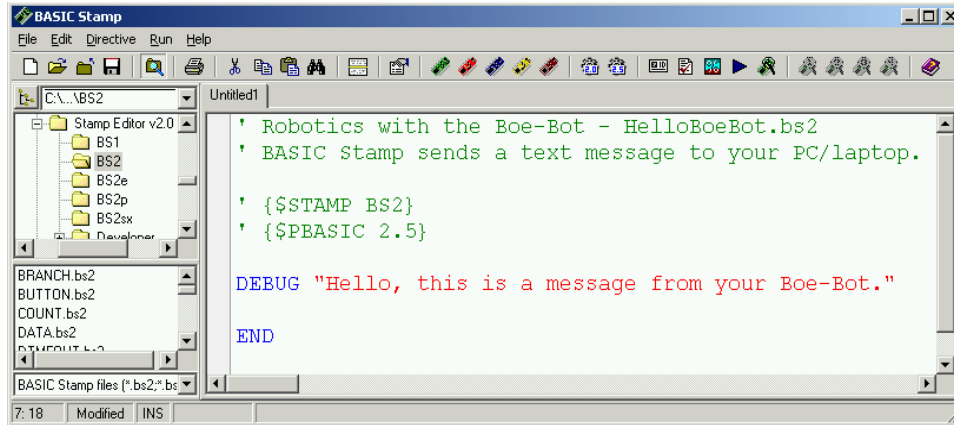

Figure 1-37 HelloBoeBot.bs2 Entered into the BASIC Stamp Editor
- √ Type the rest of the program into the BASIC Stamp Editor exactly as shown in Figure 1-37. Notice that the first two lines are above the compiler directives, and the rest of the program is below the compiler directives.